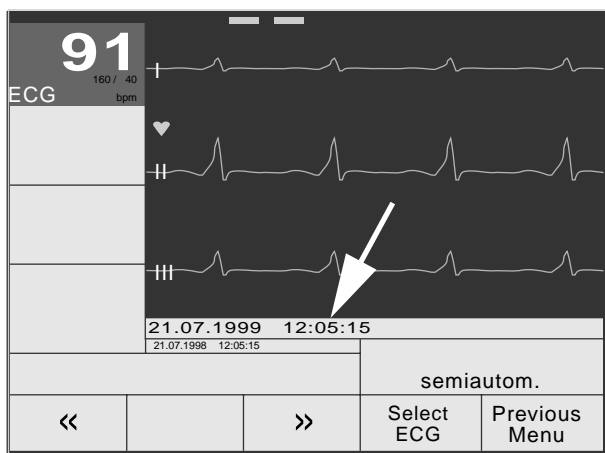

Figure 11-5. Playback function
- Display the playback menu with **F4** **Playback** (Figure 11-5).
Now you can scroll through the stored ECG in steps of 5 seconds with **F1** and **F3**. The corresponding time is annotated below the waveform window (Figure 11-5).